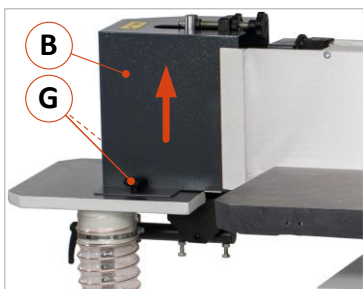

Figure 35: Remove left cover (B)
- ⇒ Figure 35: Loosen the two handle screws (G) and remove the left protective cover (B).